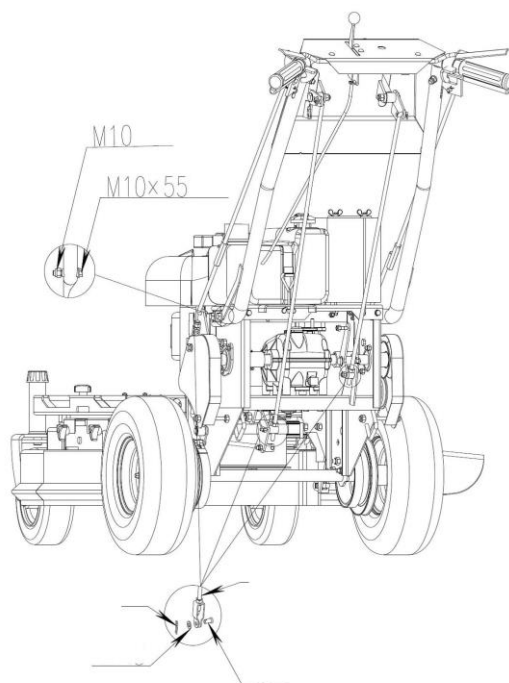

Figure 4
- Extend (open) the handles - as shown in Figure 4.
- Insert the threaded part of the connector of the end of the left and right assembly lever of the control connecting rod through the openings of the left and right oscillating brake shoulder. Add nut M6 and washer 8 and tighten. Then insert the threaded part of the connector of the end of the gearbox lever assembly through the shoulder of the gear shift. Add nut M6 and washer 6 and tighten. To complete, add the threaded part of the connector of the end of rod assembly of the blade control through the hole of the tightened oscillating shoulder. Add nut M6 and washer 6 and tighten. See Figure 4.